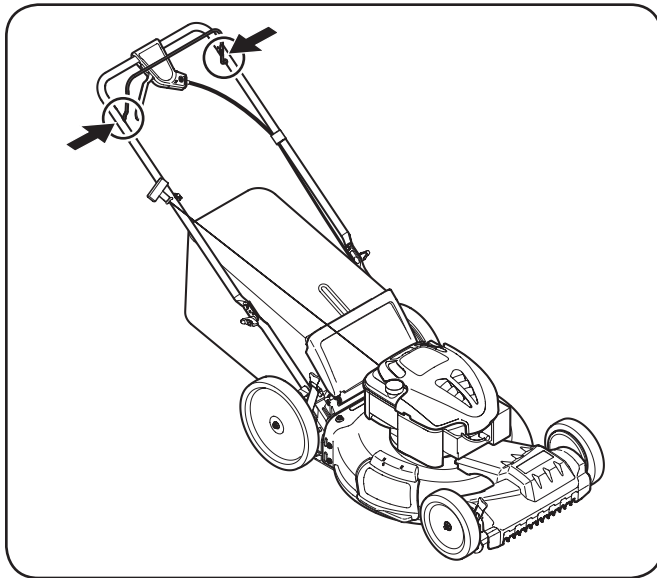

Figure 6-1
1. Lubricate pivot points on the blade control at least once a season with light oil. This control must operate freely in both directions. See Fig. 6-1.